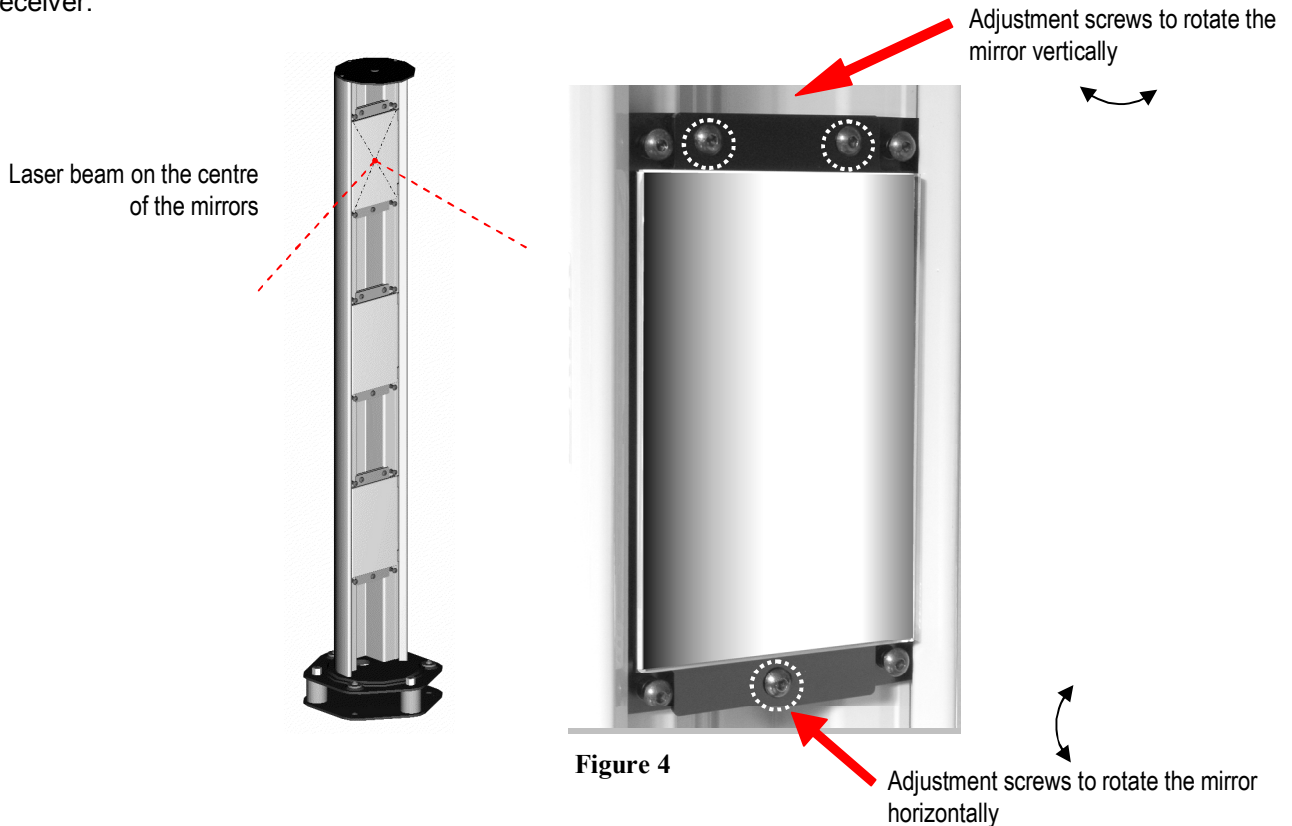

Figure 4
5. Turn the column housing the emitter and check that the laser beam falls exactly on the centre of the mirror (Figure 4).
7. Align the mirror using the three fine adjustment screws (Figure 4) to deflect the laser beam onto the photo-receiver.
3. Align the central mirror (if present) using the three fine adjustment screws (Figure 4) to deflect the laser beam onto the photo-receiver.
4. Align the bottom mirror using the three fine adjustment screws (Figure 4) to deflect the laser beam onto the photo-receiver.